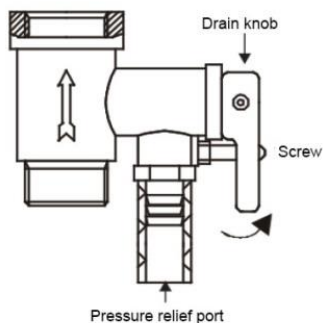

Fig 6
4. Screw the safety relief valve on the inlet nozzle, which is marked in blue and has a water flow direction arrow in such a way that the water flow coincides with the direction of the arrow on the valve body. Put the water drainage tube* (water may appear during heating) on the pressure relief port of the safety relief valve to allow water drainage into the sewer (see Fig. 6) (the tube must be directed downwards and must not be bent).
water outlet tap must be open and the cold water inlet tap must be closed (see Fig. 6). Water will start flowing from the pressure relief port of the safety relief valve.